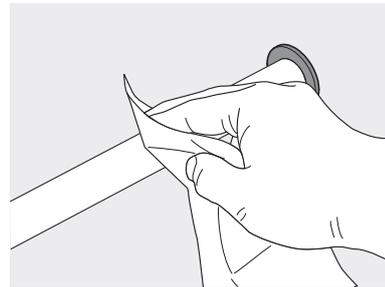

Fig. 16: Cleaning
2. Remove dirt on the merchandise support carefully with a soft, dry cloth (Fig. 16).